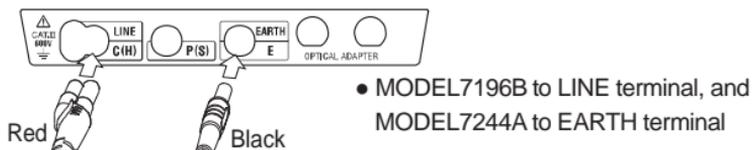

Fig. 10-1
- (1) Press the VOLTS button to select voltage measurement function.
- (2) Connect the test leads as Fig. 10-1 shows.